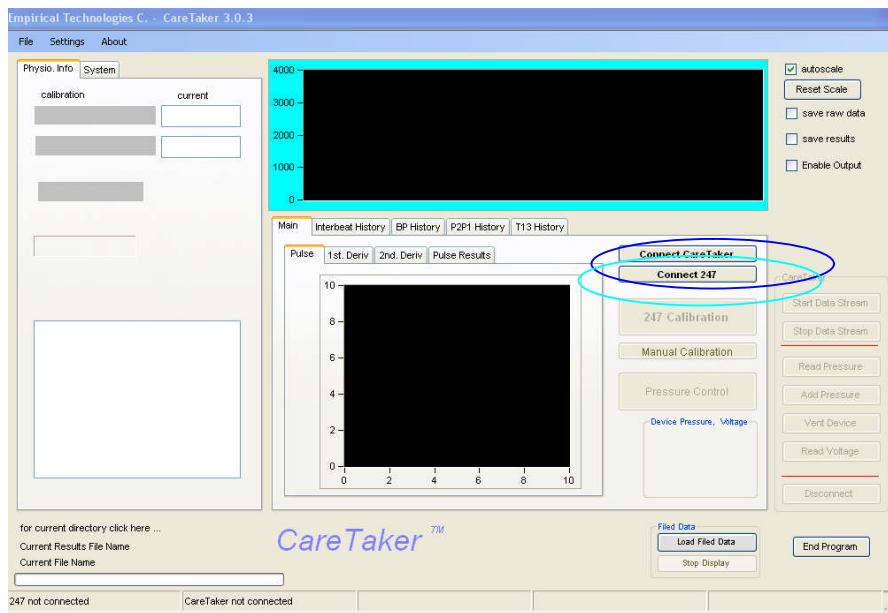

Figure 10: CareTaker GUI w/ both CareTaker & 247 (if included) disconnected
- Click the "Connect w/ CareTaker" button on the right-hand side of the GUI. (**Figure 10, blue circle**). It may take a try or two to connect.
- Click the “Connect w/ 247” button on the right-hand side of the GUI. (**Figure 10, cyan circle**). **It may take a try or two to connect.**